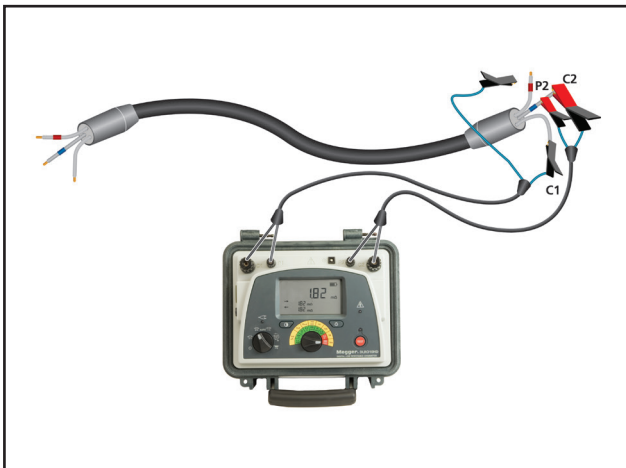

Fig 11: C1 connected to an adjacent core on the same end of the multi-core cable
Step 2: Connect the current lead C to an adjacent core. In Fig 11 it is the unmarked core.